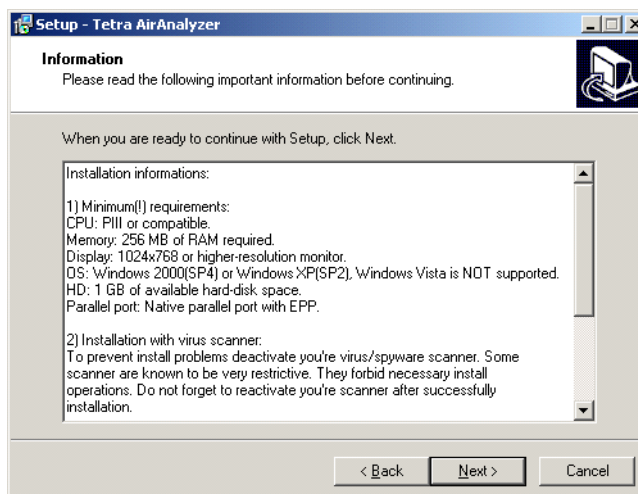

Figure 3 Installation information
- 4 Click the **Next** button to accept the license agreement, or **Cancel** to abort the installation. If you accept the agreement and click on **Next**, the installation routine will start and the installation information as shown in Figure 3 will be displayed.